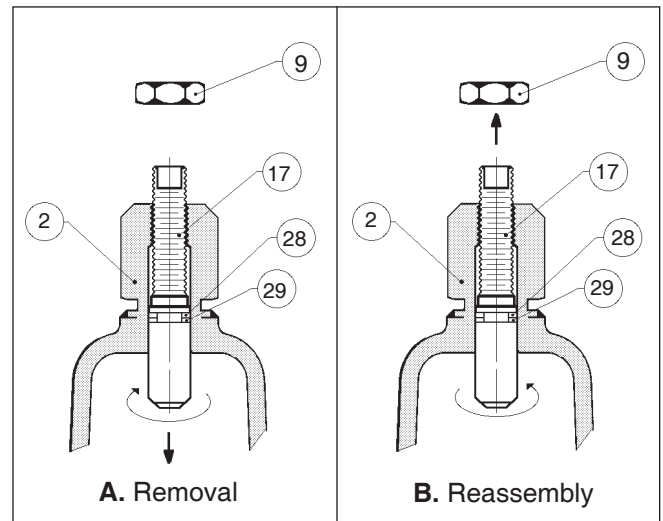

Figure 1: Adjusting screw (17) o-ring inspection.
DO NOT ATTEMPT TO REMOVE ADJUSTING SCREW (6) FROM TOP OF SPRING CHAMBER (2). The adjusting screw (6) is threaded up from inside the spring chamber (2) and the CCW rotation used to relieve range spring (14) tension will come to a stop. At the stopping point, do not apply any torque to adjusting screw (6) or damage may occur and render the unit inoperable. See Figure 1.
1. Securely install the body (1) in a vise with the spring chamber (2) directed upwards.
2. Remove closing cap (22).
3. Loosen sealing locknut (9) by rotating CCW. Relax range spring (18) by turning adjusting screw (17) CCW.
4. Draw or embed a match mark between body (1) casting and spring chamber (2) subassembly along flanged area.
6. Remove spring chamber (2) and connected parts, range spring (18) and spring button (19).